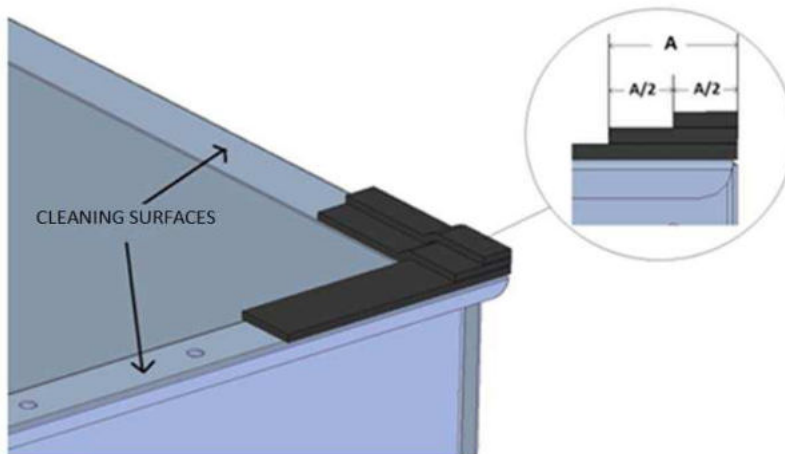

Fig. 8
**If the panel of the unit has a flange without holes,** then a double line of overlapping gaskets will be installed, as shown in fig.8, in order to increase the degree of protection from any possible water leaks.